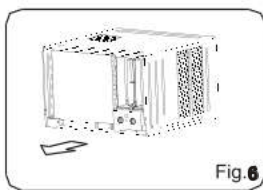

Fig. 6
- Grasp the handle on the chassis and carefully slide the air conditioner out of the cabinet. (See Fig.6)